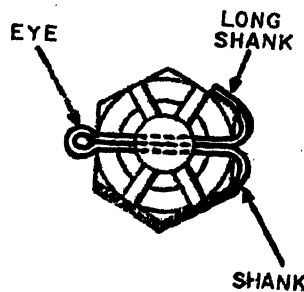

FIGURE 11
- d. Press the cotter pin shanks with the back of the diagonal cutting pliers to obtain a snug fit around the castellated nut. See figure 11.